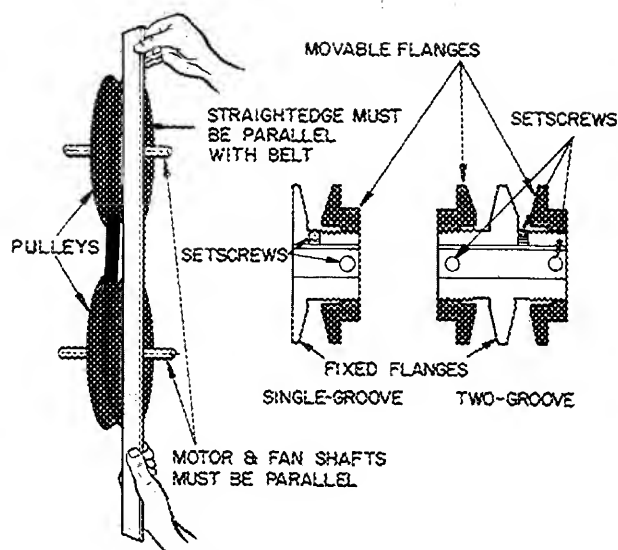

Fig. 31 — Indoor Air Fan Pulley Adjustment
3. Loosen movable pulley flange setscrew (see Fig. 31).